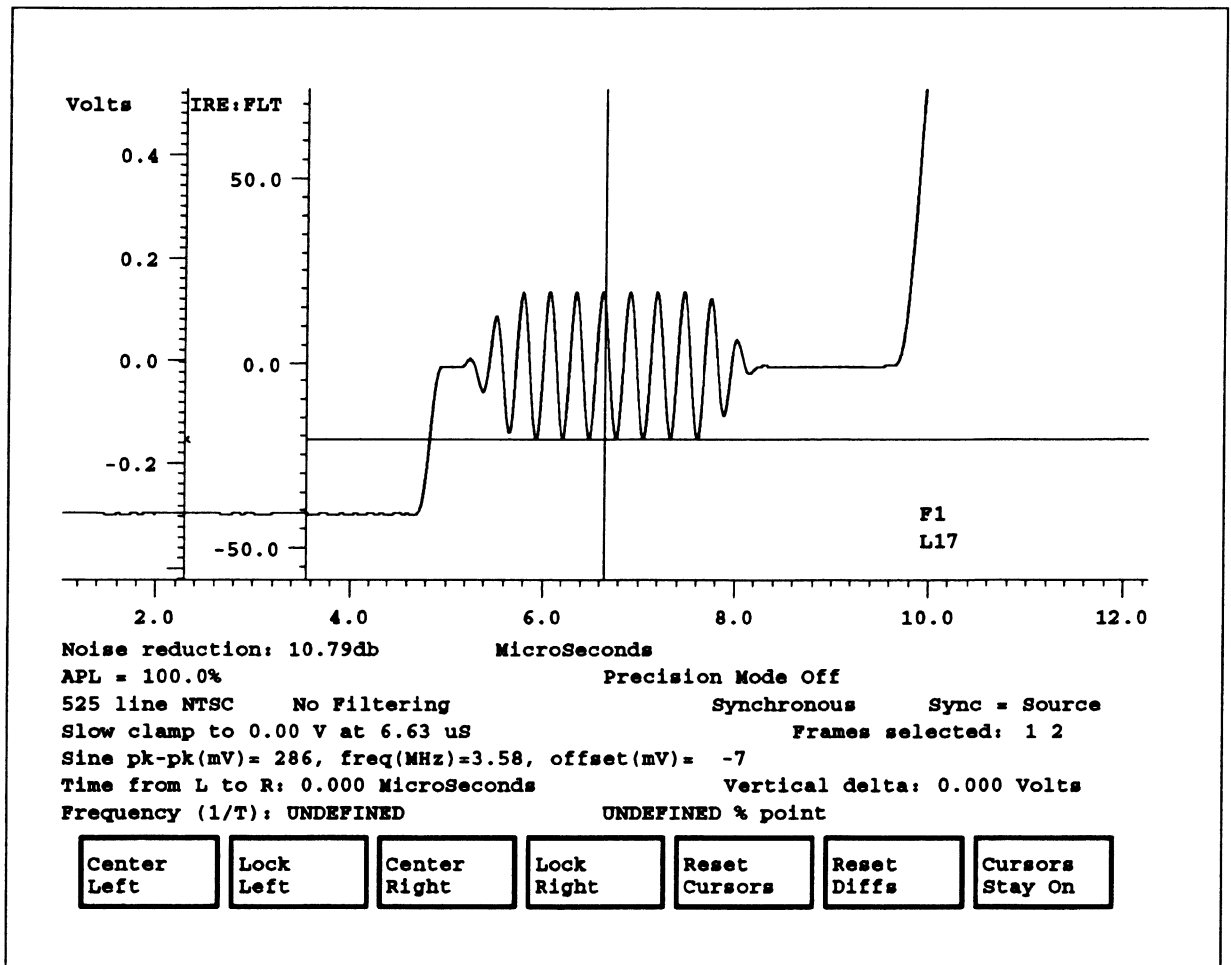

Figure 4-4. Color burst aligned with horizontal reference line.
Selecting the **Cursors** softkey displays the cursors and the submenu shown in Figure 4-4. When cursors are on, three additional status lines appear: (1) Sine pk-pk (mV), freq (MHz), and offset (mV); (2) Time from L to R, and Vertical Delta; and (3) Frequency (1/T), and % point (% point appears as **UNDEFINED point** when cursors are first turned on or when the **Reset Cursors** softkey is touched). The values in the first Cursor status line are measured at the center of the display. The message **Sinewave at middle of screen has frequency above 1.5 x Subcarrier: not measurable** is displayed when no sine wave is found at the center. This condition occurs when measuring noise and when the signal frequency is actually too high to measure. The formula used for calculating the Sine pk-pk (mV), freq (MHz), and offset (mV) values is:
Use the control knob to position the bottom (or top) of the portion of the waveform to be measured on the horizontal reference line. See Figure 4-4.